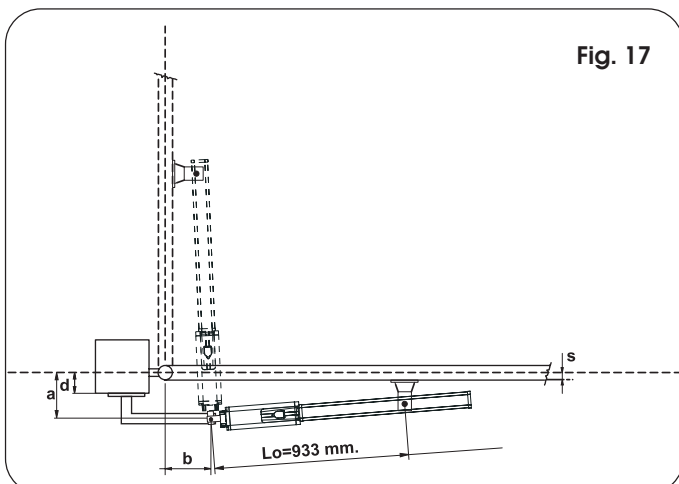

Fig. 17
9.1. OPENING NAAR BUITEN MET MONTAGE VAN DE AANDRIJVING AAN DE BINNENZIJD E (Fig. 17)